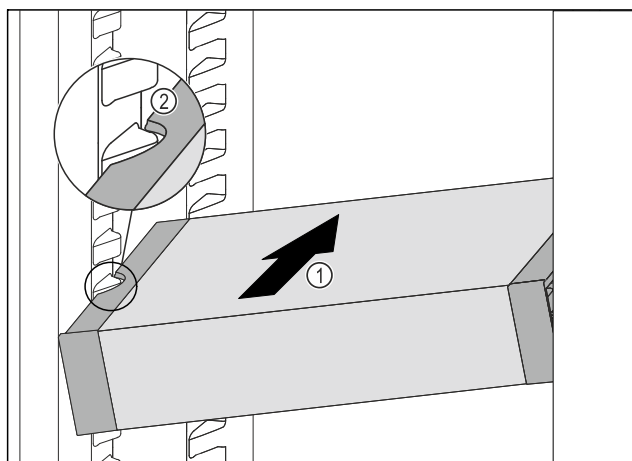

Fig. 129
- Insert the VarioSafe into the fridge section at an angle Fig. 129 (1) until the recesses in the side Fig. 129 (2) of the VarioSafe are at the level of the support rib in the fridge section.